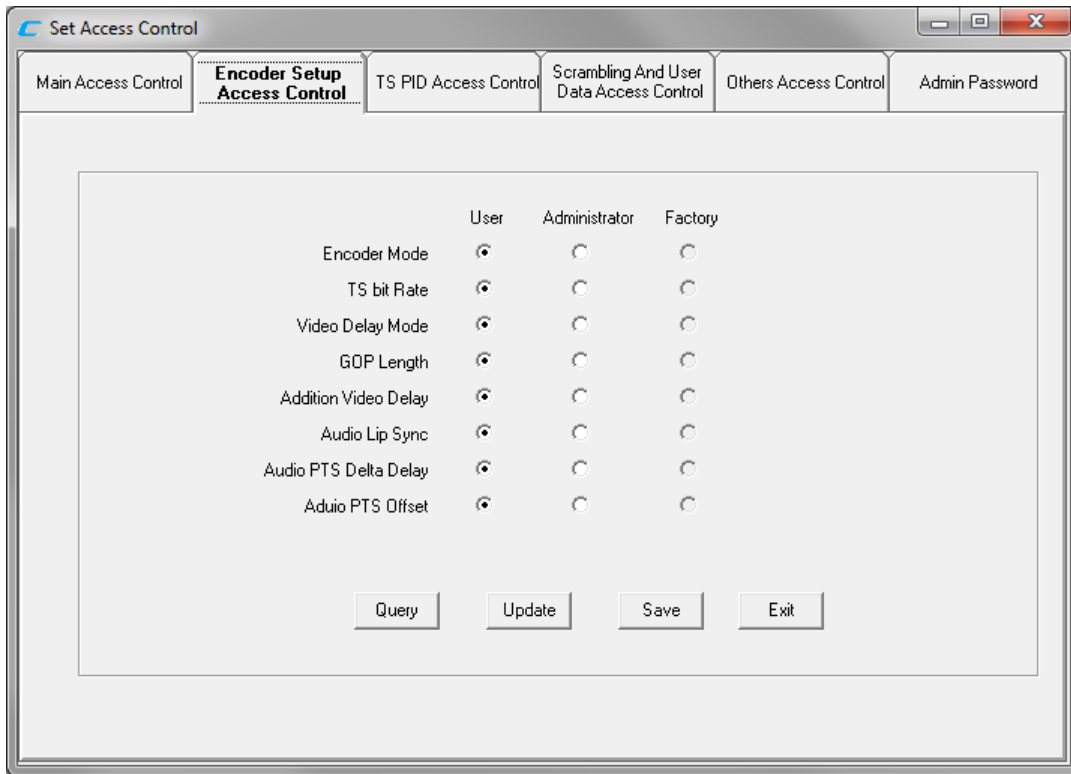

Figure 12 – Encoder Access Control Window
2. The “Encoder Setup Access Control” (see Figure 12). The encoder parameters such as Video delay mode and GOP length are listed here.